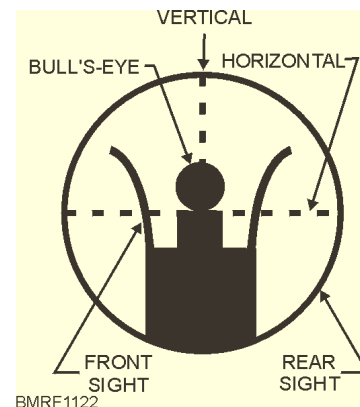
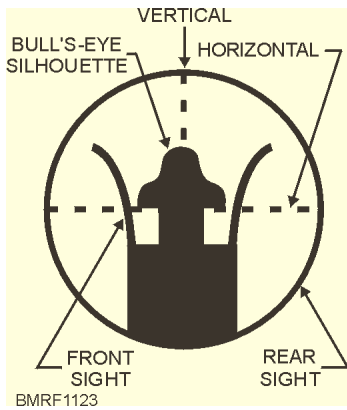
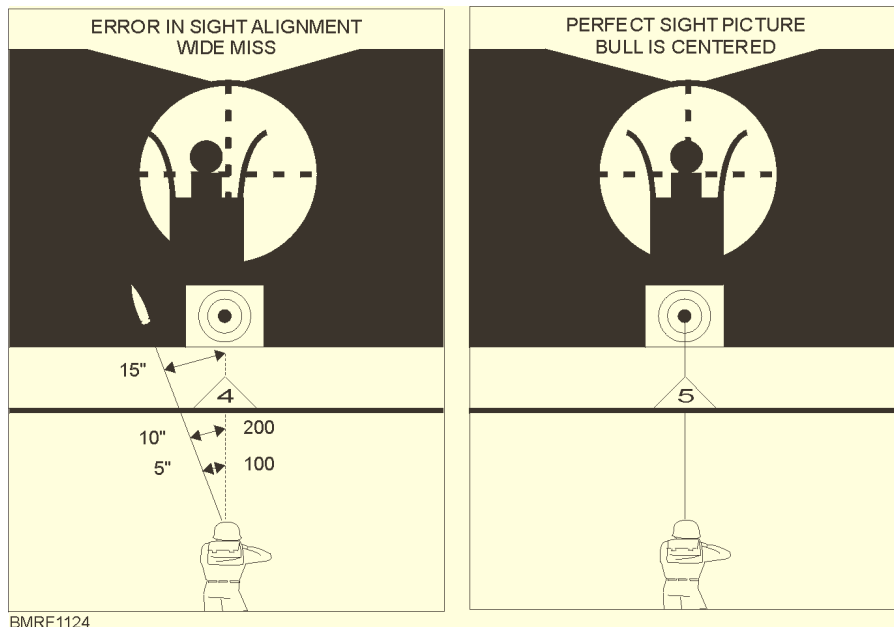

Figure 11-22.—6 o'clock sight picture held on "A" target at a range of 200 yards.
Figure 11-23.—6 o'clock sight picture held on a "D" target at a range of 200 yards.
Figure 11-24.—Error in sight alignment increases as range increases.
**AIMING POINT.**—The aiming point is the point on the target where the sights of the weapon are brought to bear. The correct aiming point is at 6 o'clock; that is, the bottom of the bull's-eye of a type "A" target (fig. 11-22) or the silhouette of a type "D" target (fig. 11-23). Any location on the target face is always given relative to a similar position on a clock face regardless of the target shape. Therefore, a vertical line in the exact center of the target would be described as running from 12 o'clock (top) to 6 o'clock (bottom).
**SIGHT PICTURE.**—To obtain the correct sight picture, you need to align the rear sight, the front sight, and the bull's-eye (figs. 11-22 and 11-23). Each of these three elements affects the sight picture. As you can see from figure 11-24, any error in sight alignment will increase as the range increases. An error in the aiming point remains constant as the range increases.